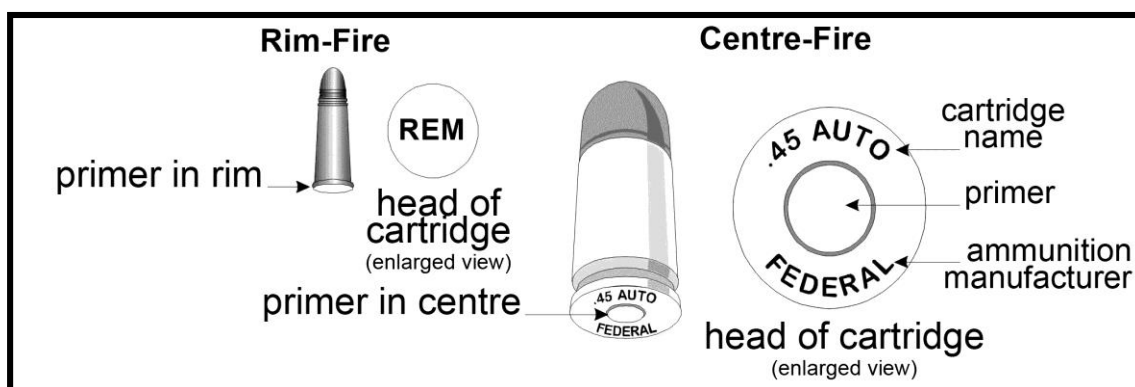
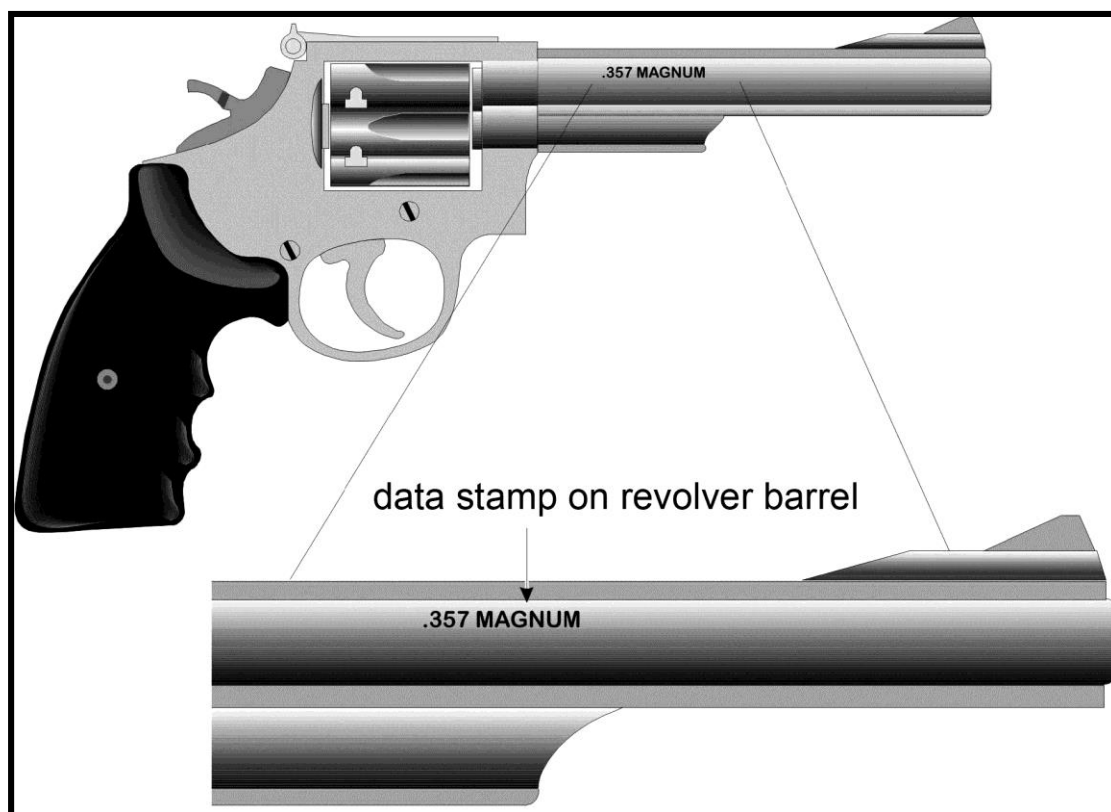

Figure 92. Example of a Rim-fire and Centre-fire Cartridge with Head Stamp
Figure 93. Example of a Barrel Data Stamp
- b. Manufacturers produce firearms of many calibres. Always make sure that the cartridge name on the head stamp (Figure 92) matches the information on the data stamp, if available, on the barrel or slide of the firearm (Figure 93). This is the most important point to remember when selecting ammunition. Then choose the right type of ammunition for your firearm and target. The right shape or weight of the bullet is an example. If in doubt, consult a firearms or ammunition dealer.